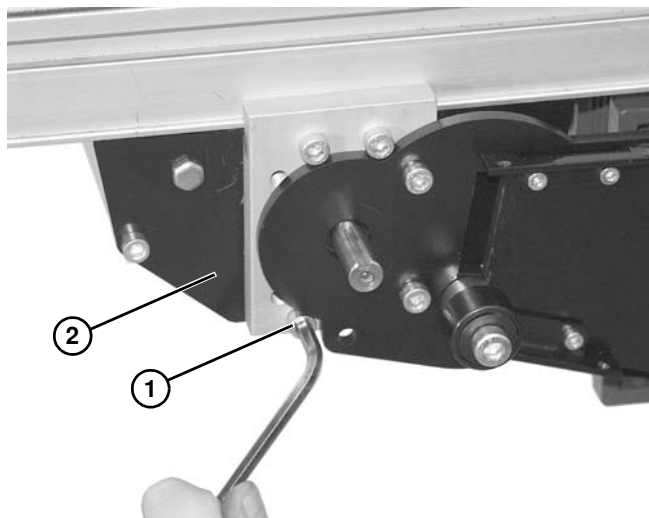

Figure 42
2. Remove two screws (**Figure 42, item 1**) from bottom of mid drive assembly (**Figure 42, item 2**).